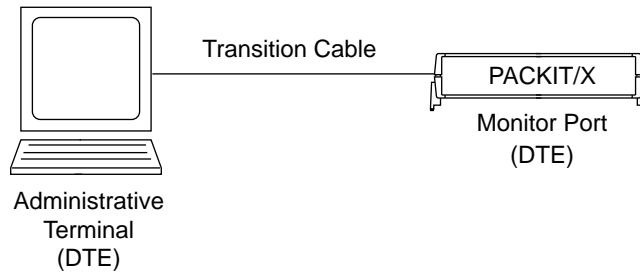

FIGURE 8-41. Local Monitor Cabling
1. Connect the 9-pin end to the monitor port on the PACKIT/X. See Figure 8-41.